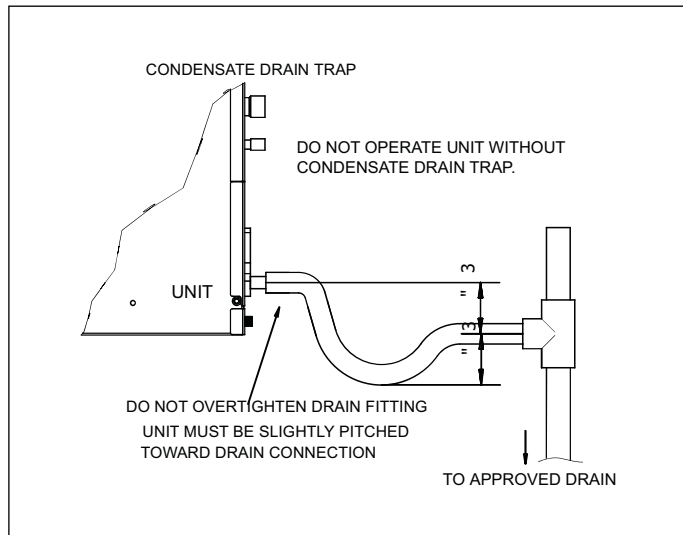

Figure 7
- ▶ Make sure unit is leveled or pitched slightly toward primary drain connection so that water will drain completely from the pan. (See Fig. 7)
- ▶ Make provisions for disconnecting and cleaning of the primary drain line should it become necessary. Install a 3 inch trap in the primary drain line as close to the unit as possible. Make sure that the top of the trap is below connection to the drain pan to allow complete drainage of pan (See Fig. 7).